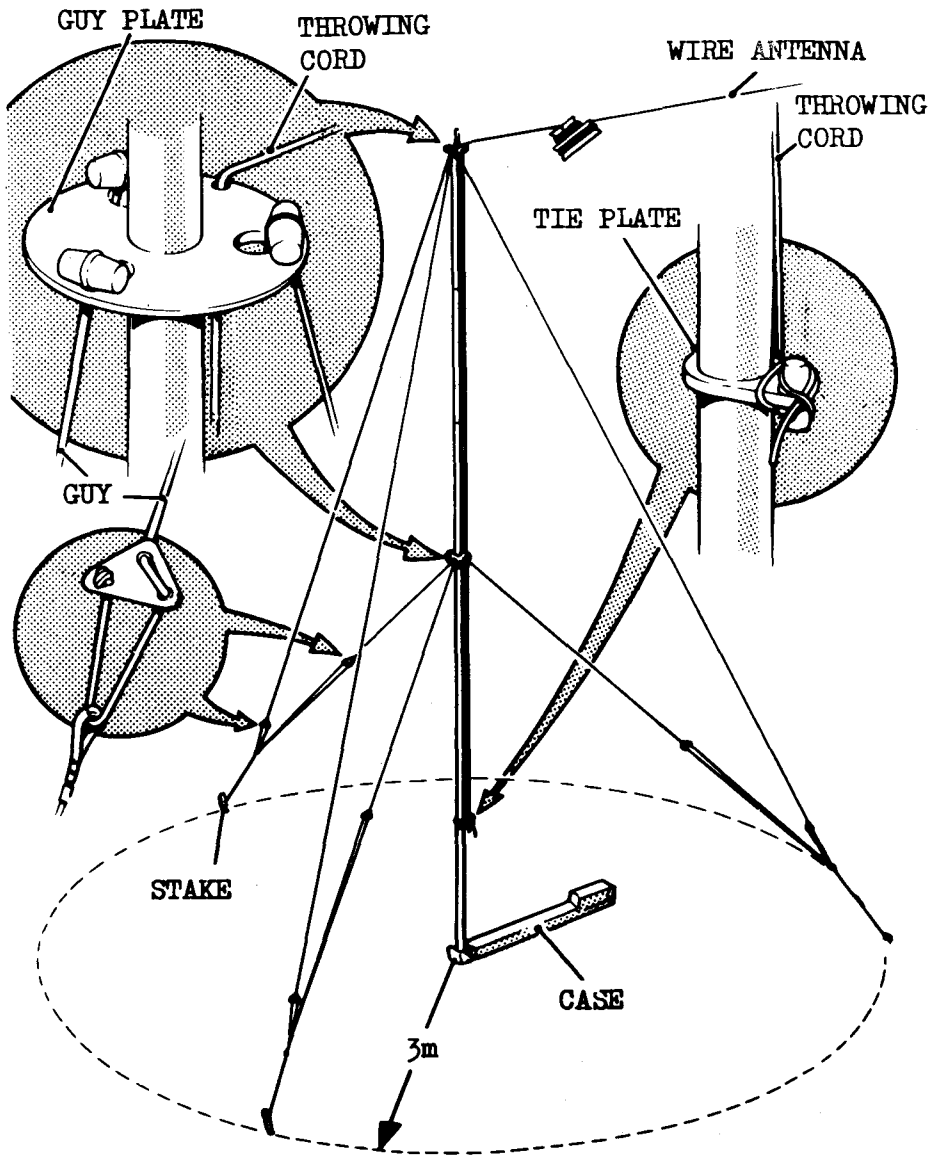
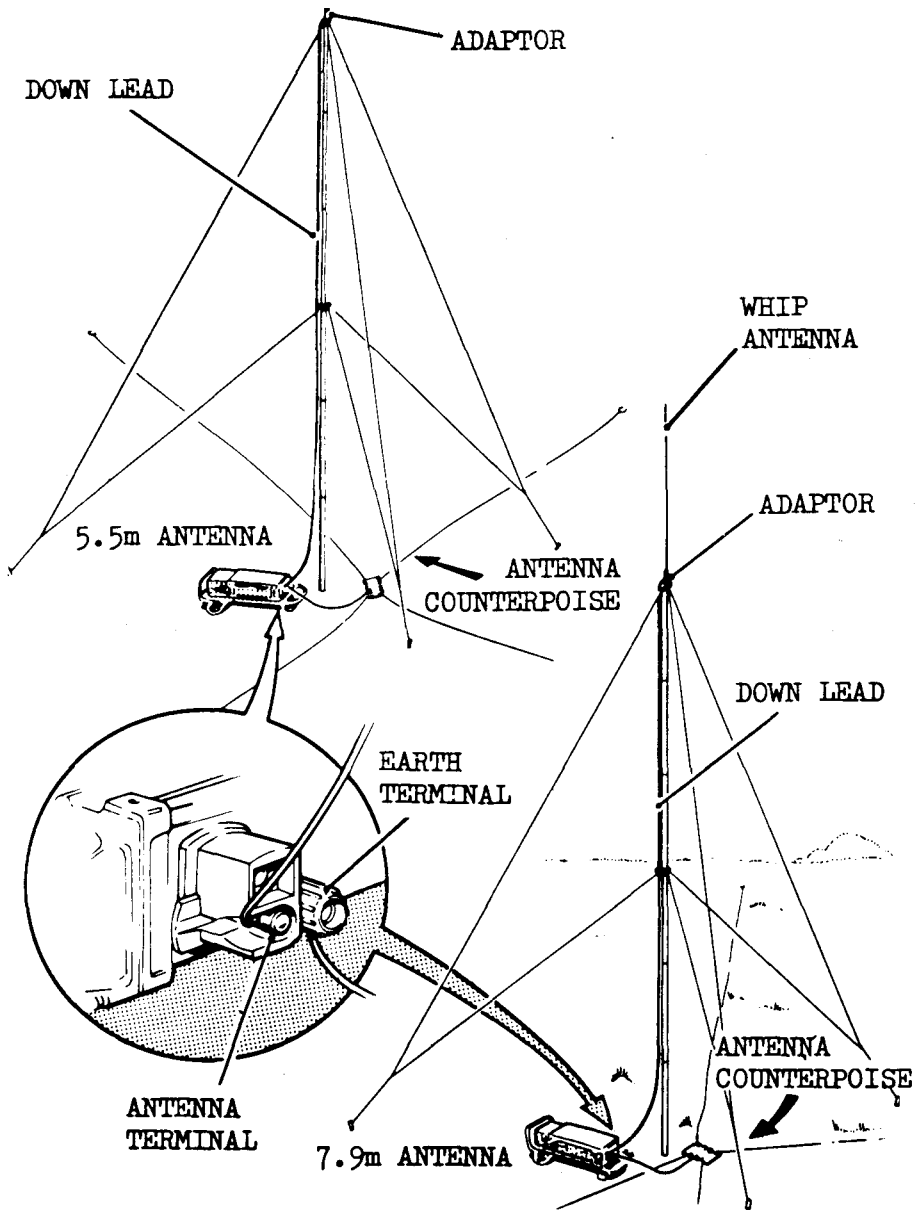

Fig.8 Erection of 5.4m Mast with Wire Antenna
Fig.10 5.4 Mast with Ground Wave Vertical Antennas
5.4M MAST (Fig.8 page 27, Fig.10 page 31)
GROUND WAVE VERTICAL ANTENNAS (Fig.10)